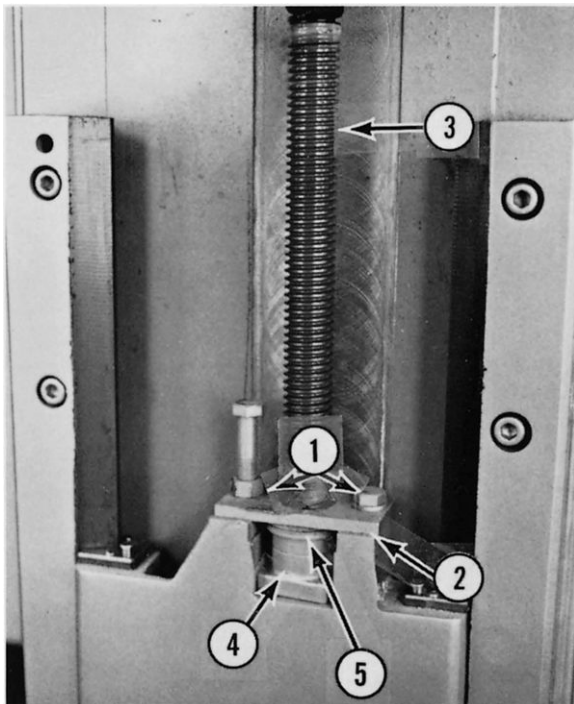
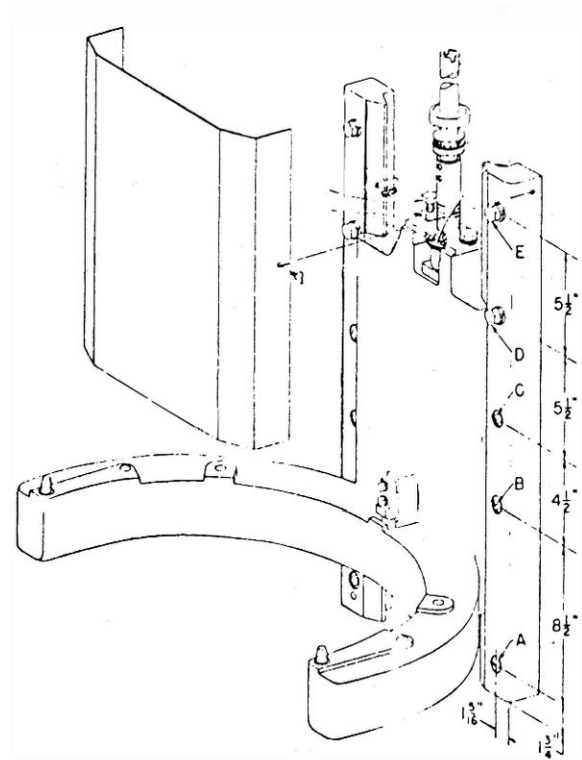

Fig. 12-11
Fig. 12-12
F. Remove the two bolts (1, Fig. 12-11) in the nut retainer (2, Fig. 12-11).
G. Remove the bowl lift screw (3, Fig. 12-11), the bowl lift nut (4, Fig. 12-11) and thrust bearing (5, Fig. 12-11).
- (1) Remove the stainless steel apron.
- (2) Break the paint and body putty covering the heads of the three lower screws (A, B, C, Fig. 12-12) (Locate by dimensions given).
(3) Run the bowl support all the way down and remove the bowl lift nut retainer (1, Fig. 12-11). Then run the nut back up the screw.
(4) Take out the five screws (A, B, C, D, E, Fig. 12-12) and remove the right-hand slideway. The bowl support will then be clear of the bowl lift screw.
- (1) If a new casting is installed, the fittings such as bowl clamps, locating studs and bowl retainer can be transferred from the discarded casting.
- (2) Clean and lubricate the grooves on the bowl support that fit into the slideways.
- (3) Lift the bowl support in place, with the groove in the left-hand slideway.
- (4) Install the right-hand slideway using bolt at the top (E, Fig. 12-12) and bottom (A, Fig. 12-12).
- (5) Install the remaining bolts, but do not tighten at this time.
- (6) Align the bowl lift nut in the bowl support and install the bowl lift nut retainer (1, Fig. 12-11).
- (7) Adjust the slideways. Refer to Adjustments "Slideways".
(8) Install the stainless steel apron.